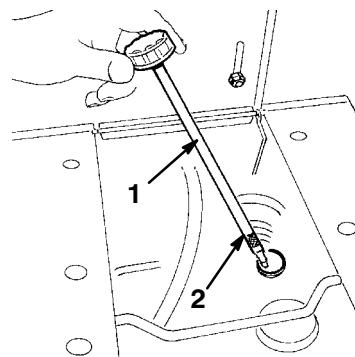

Figure 13
2. Clean around the oil dipstick (Fig. 13) so dirt cannot fall into the filler hole and damage the engine.
3. Unscrew the oil dipstick and wipe the metal end clean (Fig. 13).